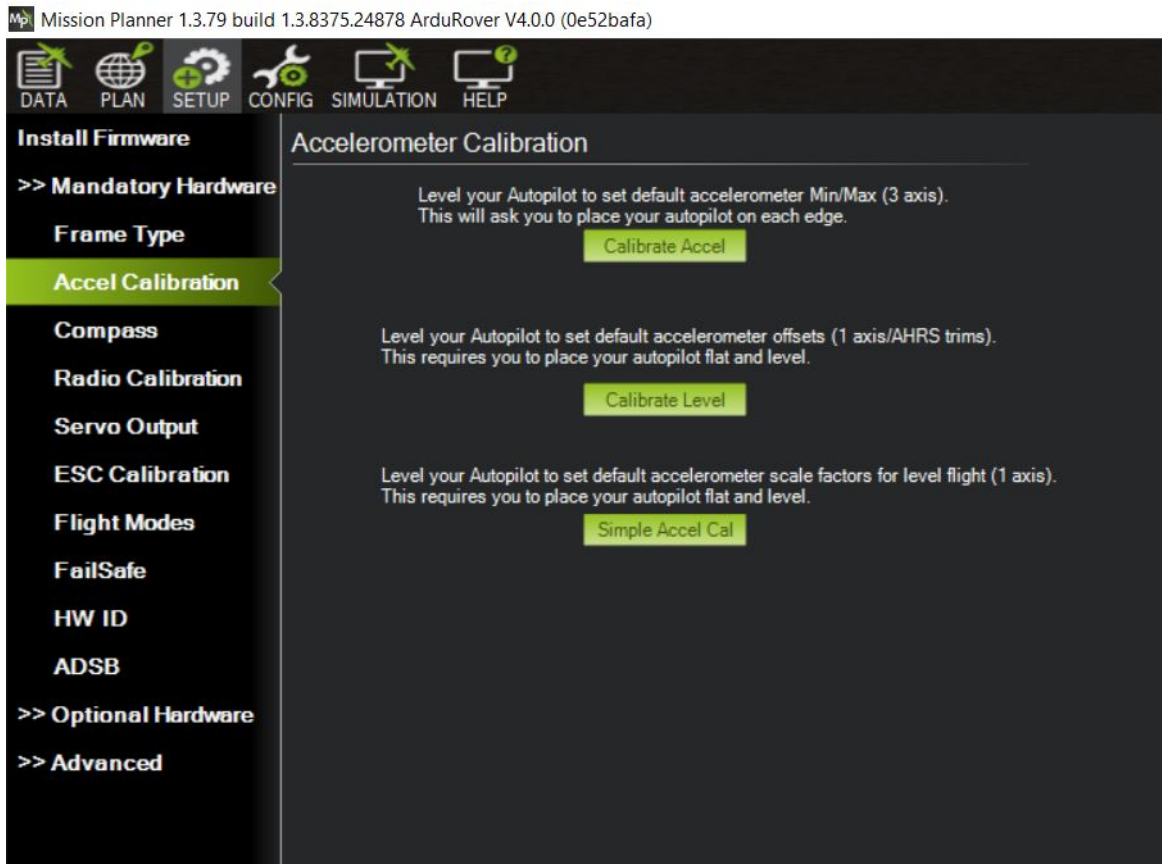

Figure 90: Accel Calibration
13. Select Calibration Level. (See Figure 90)